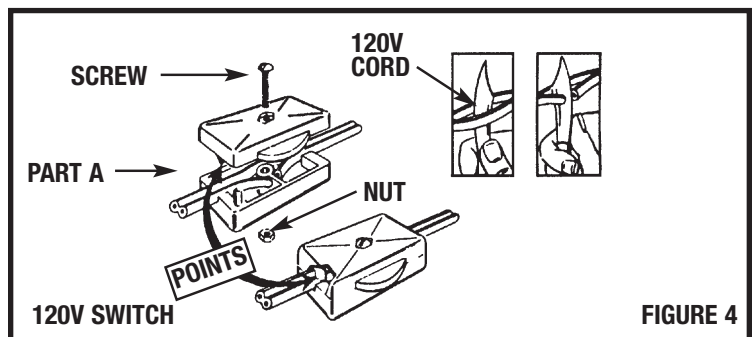

FIGURE 4
1. Split 120v cord as illustrated (FIGURE 4). Cut the non-tracer (or smooth) wire. Be sure to cut only the smooth non-tracer wire.